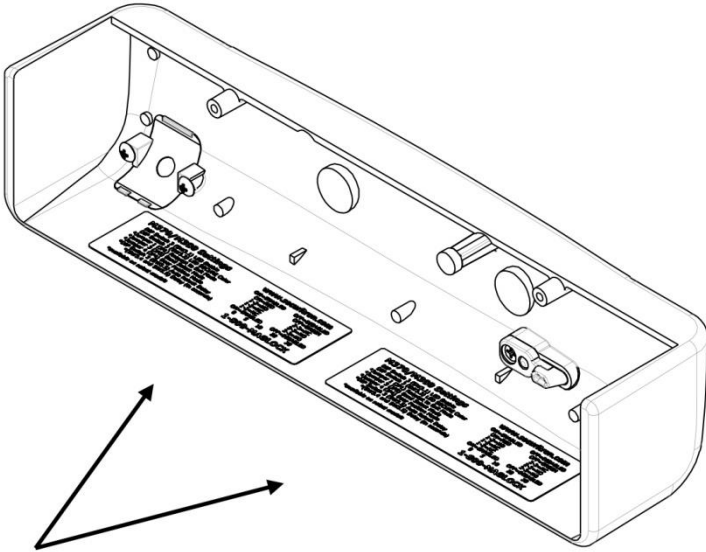

Figure 7. Magnalock Settings Labels
2. COMPLETE the label and AFFIX to the inside cover of the Magnalock (see Figure 7, "Magnalock Settings Label.")